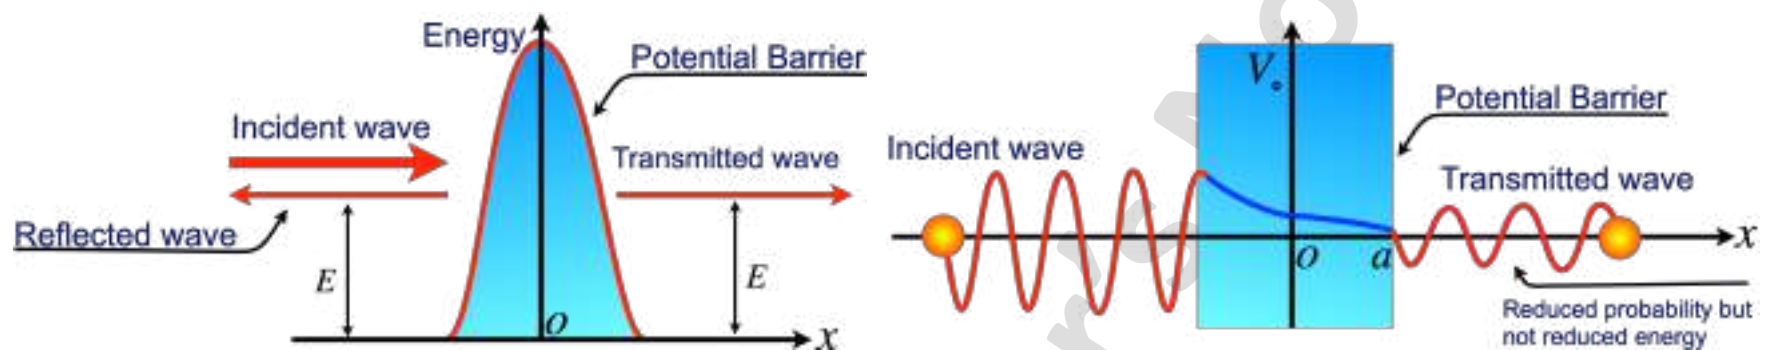

Fig. 16: (a): Incident particle with energy collides with the potential barrier, (b): Tunnel effect
- Let us consider a potential barrier as shown in Fig. 16 (a) and Fig. (b).